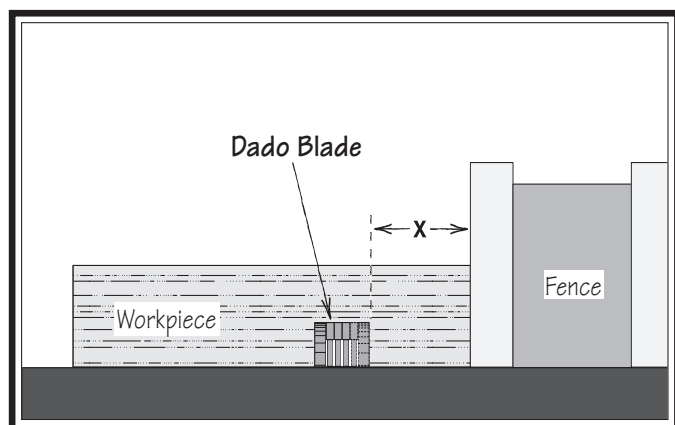

Figure 71. Dado cut.
Figure 71 shows a cutaway view of a dado cut being made with a dado blade.
3. Adjust distance between fence and inside edge of blade, as shown in **Figure 71** on **Page 48**, to dado length of a workpiece.